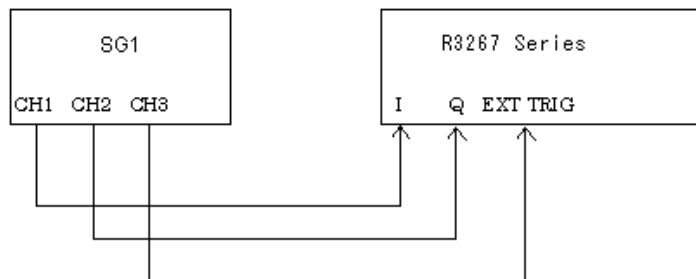

Figure 6-8 Setup of Down Link Measurement (IQ Input)
1. Connect equipment as shown in Figure 6-8.